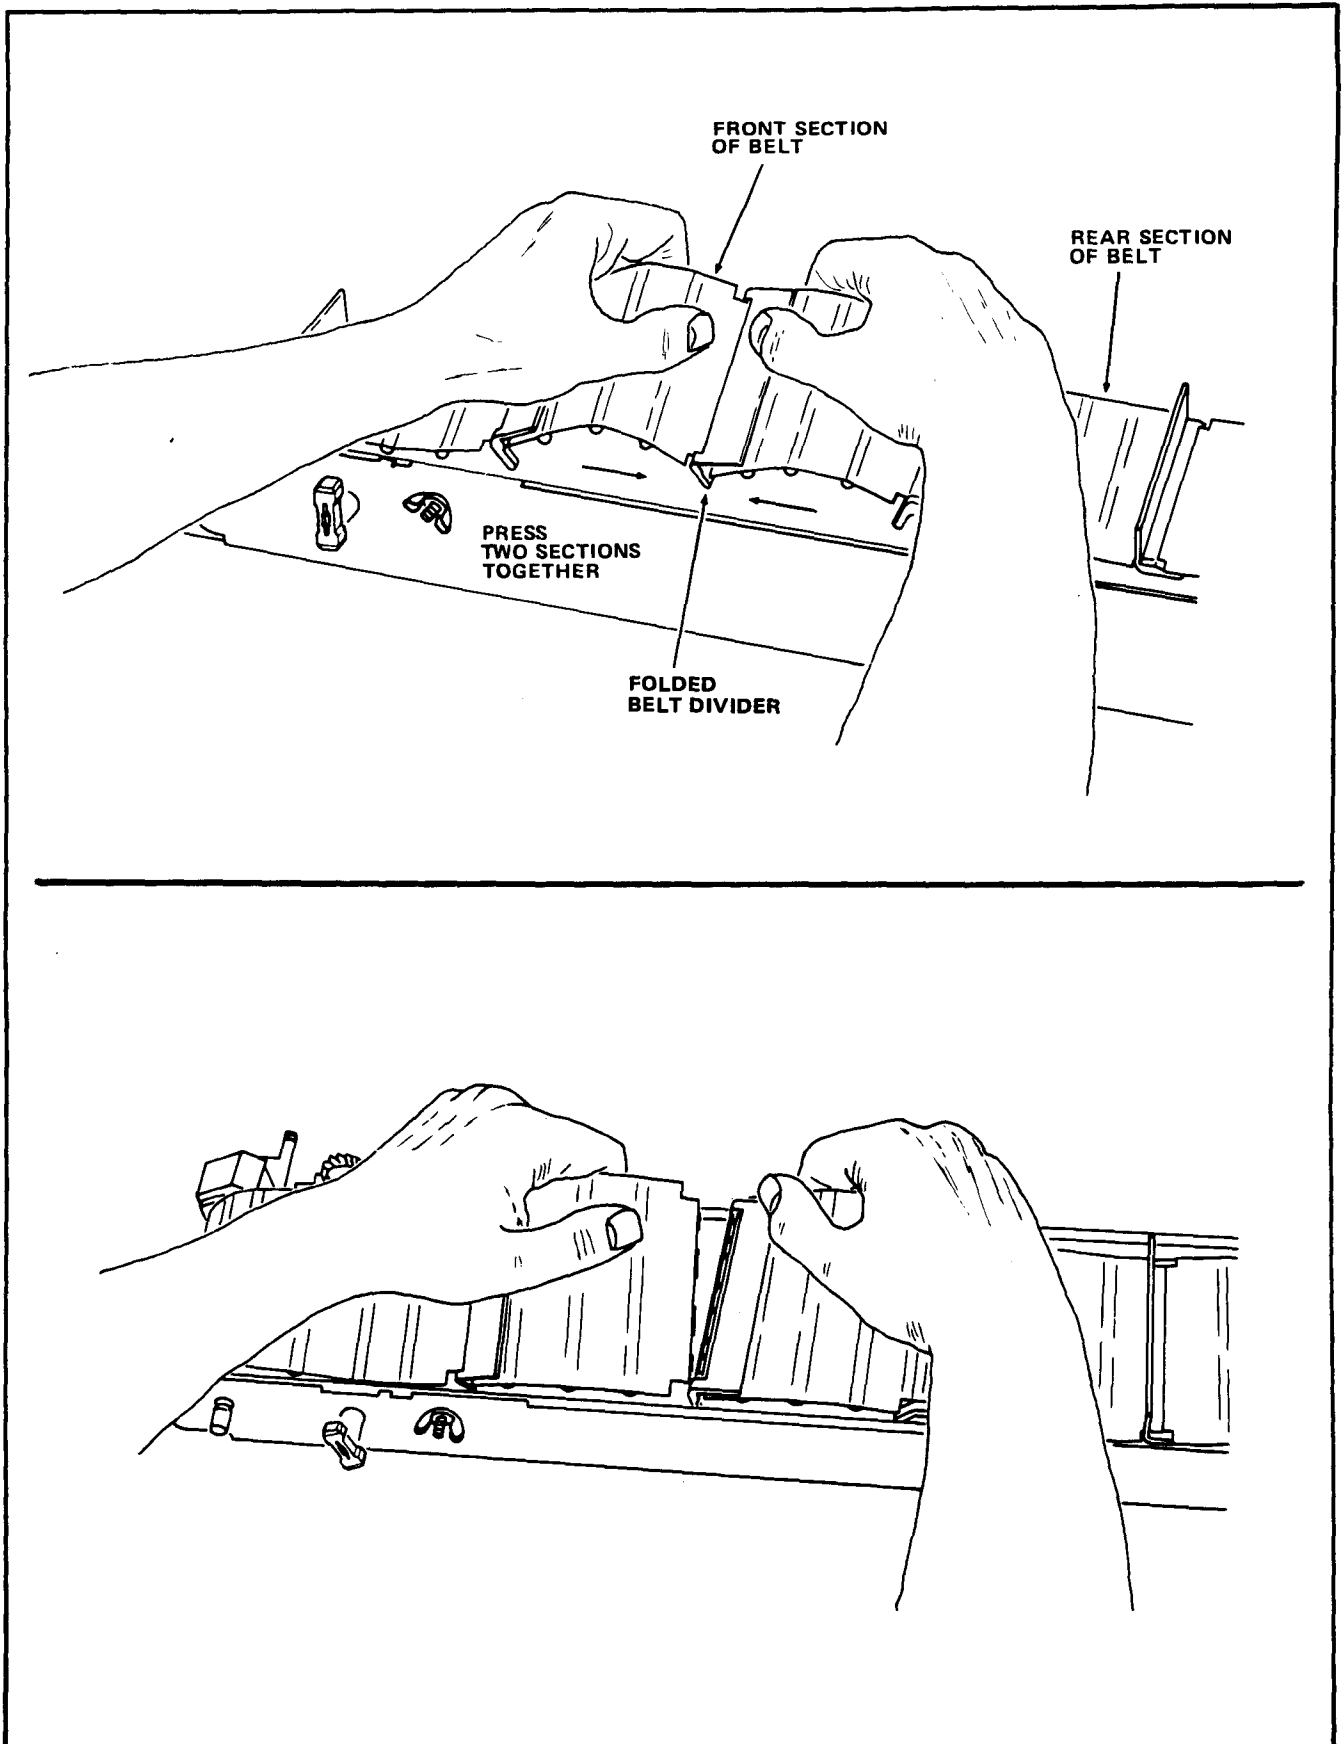

FIGURE 2
4. Grasp the Product Belt to the front and rear of the folded Belt Divider and push the Belt together as shown in Figure 2.
5. Pull the Front Section of the Product Belt up and towards yourself. The Product Belt will come apart. See Figure 2.